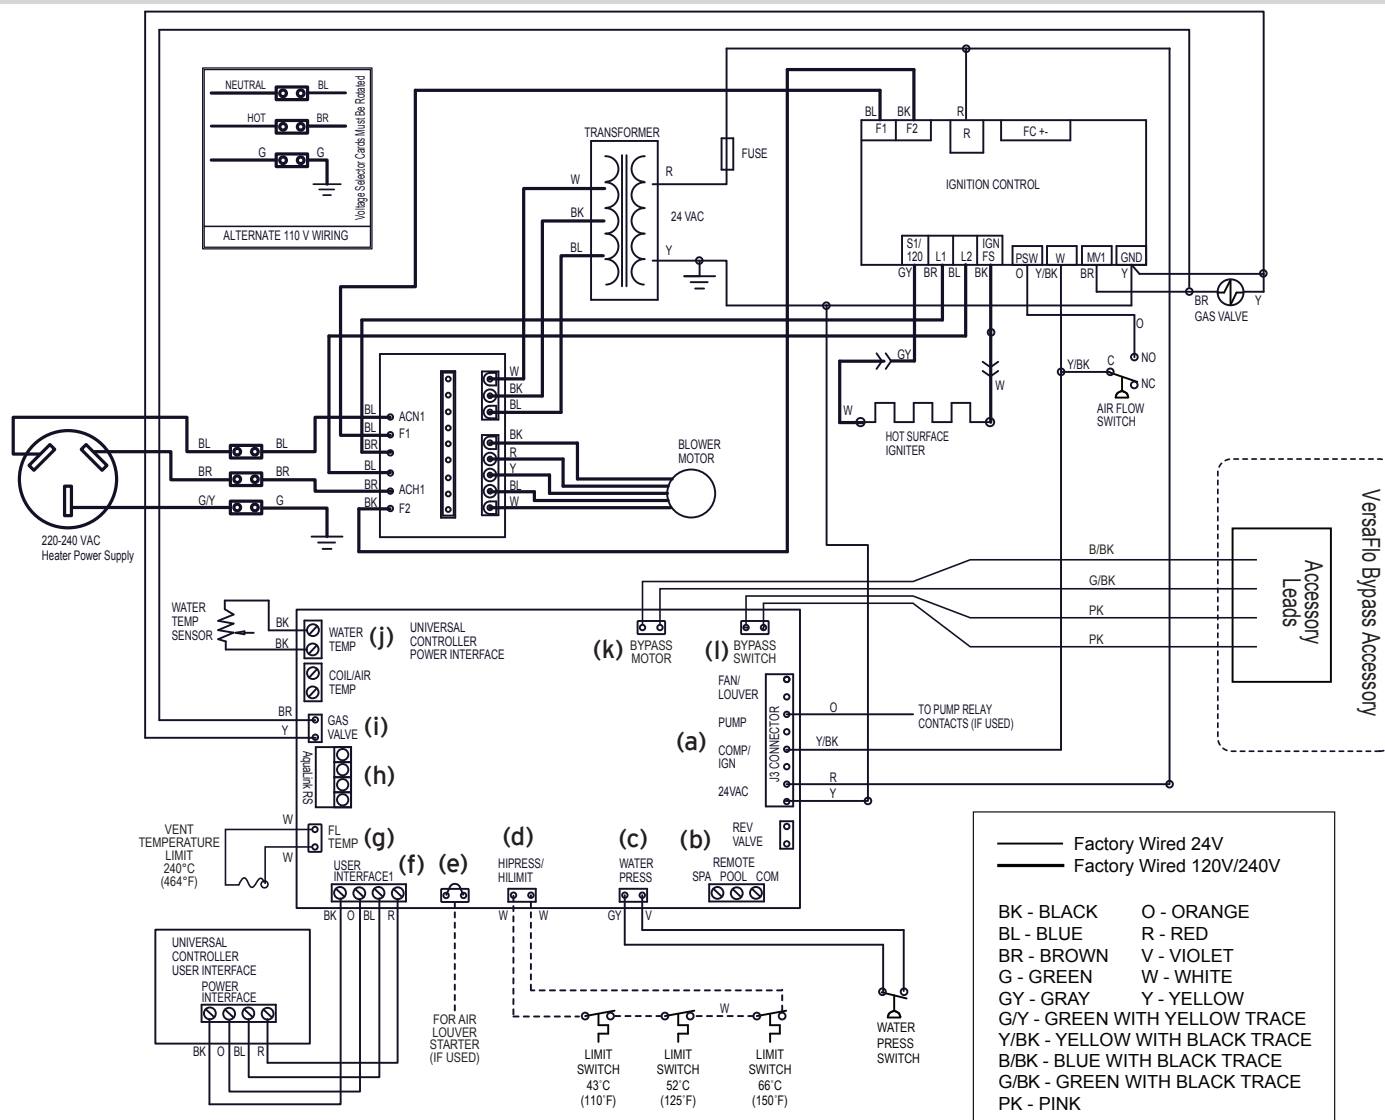

Figure 14. JXi Connections/ Schematic Wiring Diagram
Refer to *Figure 14* for a complete diagram of wiring connections and terminals.
- Connect the wiring from the pool/spa control system to the heater remote control terminal. See *Figure 14* item “b”.
- Connect the two wires to Pool and Common (not Spa) on the J6 terminal bar. See *Figure 14* item “b”.